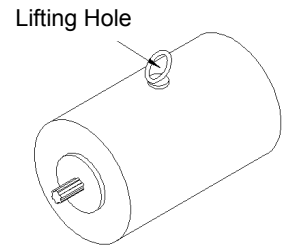

Figure 2-44
(5) Lifting description of the travel motor as shown in Figure 2-44